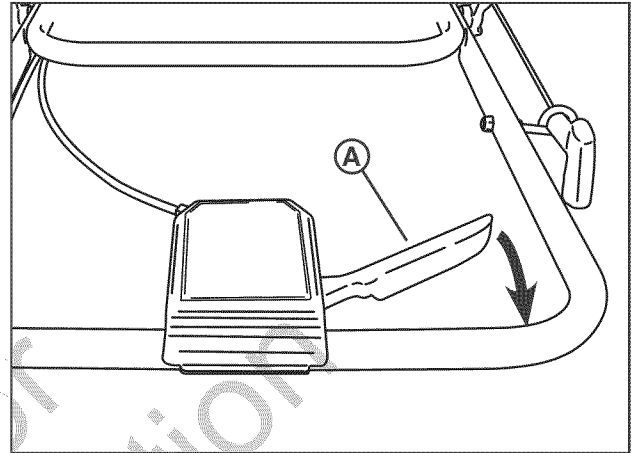

Figure 13: Operating the wheel drive system
2. Slowly pull the drive lever (A, Figure 13) back. The drive system is now engaged. To increase ground speed, slowly pull the drive lever farther back. To decrease ground speed, slowly release the drive lever.